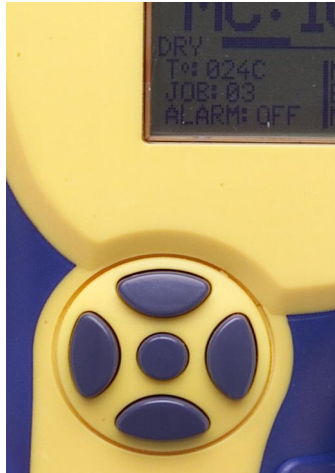

Fig. 1 Keypad Layout
The meter uses an on-screen, menu-driven approach to navigate through the meter features, allowing for an intuitive understanding of keypad functions. Each screen presents the user with a number of selectable options. One of the options is always selected and the user can move (navigate) the selection to any other available option. The keypad is aimed at providing navigational control, and not at accessing specific features. There are four directional keys aligned intuitively around a middle (fifth) key (see Figure 1): Above (UP), below (DOWN), to the right (RIGHT) and to the left (LEFT). The middle key is used to SELECT the option highlighted on the screen. For purposes of this owner's manual, the five keys will be referred to as ← → ↑ ↓ and SELECT.